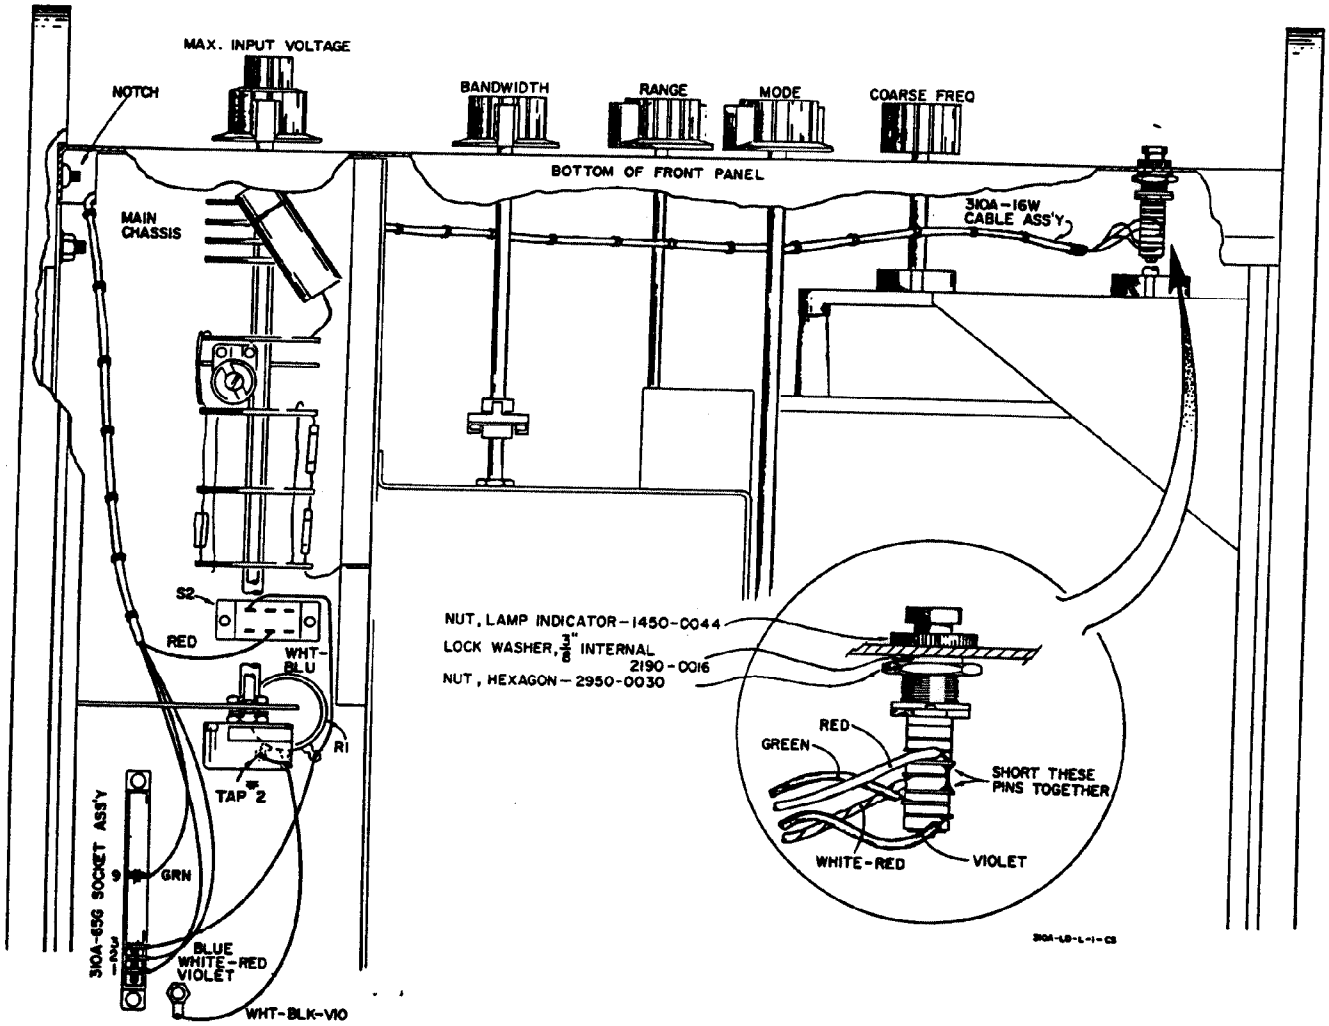

Figure 2. \otimes Model 310A, Pushbutton Switch Assembly, Wiring and Cable Layout
4. Solder the 24 inch long 4-wire cable assembly (310A-16W) to the pushbutton switch assembly. Refer to inset in Figure 2.
5. Mount the pushbutton switch to the panel as illustrated in Figure 2 inset.
6. Dress the cable assembly behind the front panel to the left side of the 310A, then through the notch in the main chassis next to the left side frame. Continue dressing cable to location of 310A-65G socket assembly. Refer to Figure 2.
2. Remove and discard the violet wire connected between tap #2 (see Figure 2) on R1 and Pin 1 of the 310A-65G socket.
Remove the white-black-violet wire (connecting the center tap and tap #2 of R1 with pin 1 of the 310A-65G socket) from pin 1 of the 310A-65G socket and connect it to the ground lug near pin 1. See Figure 2.
d. Red to terminal on S2 indicated in Figure 2.